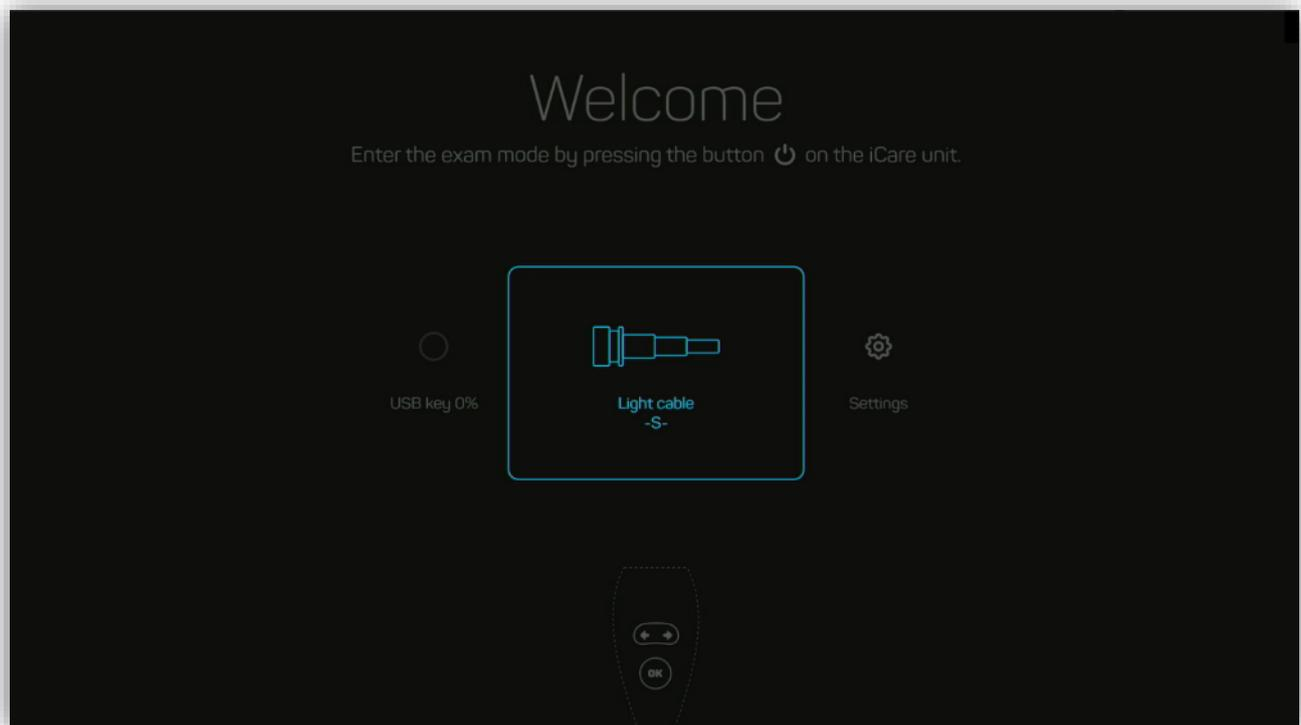

Figure 6 - Welcome screen
- The welcome screen appears on the monitor (see Figure 6).
- Press [22] or [23] to move the selection cursor (see Figure 6).
When you are in the welcome menu, the set light cable type is displayed on the screen (see Figure 6).